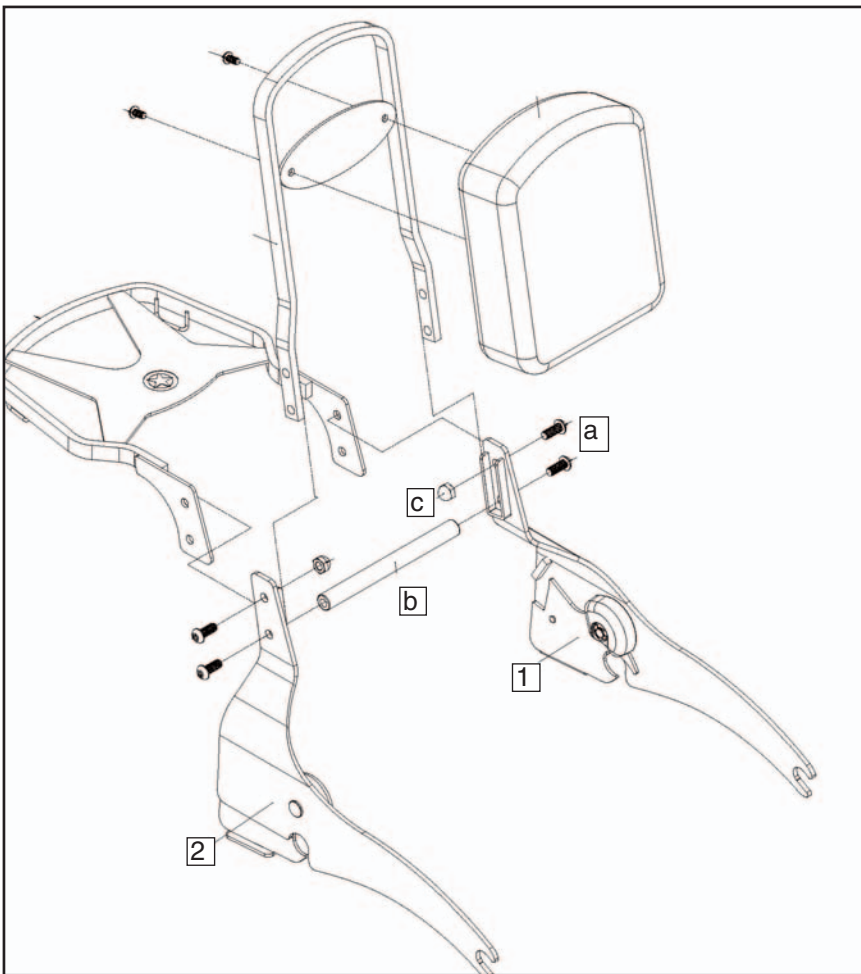

Figure 3
1. Assemble side plates (1) and (2) to the Paladin backrest alone or with the Paladin luggage rack. **(5mm Hex Wrench) Figure 3**
2. Use the button head screws (a) and the support stay (b) provided with the backrest to complete assembly of the side plates. **(5mm Wrench) Figure 3.**